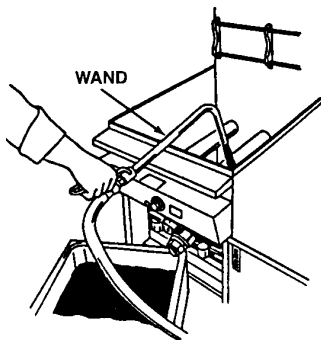

Figure 2.4: Fill fryer with filtered oil
5. Fill fryer with filtered oil by turning on pump and directing end of wand into vessel (See Figure 2.4).
4. Once shortening is melted fill fryer with oil by turning on pump and directing end of wand into vessel (See Figure 2.4).